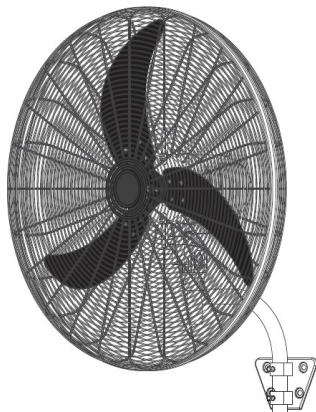

Figure 5
- * You can also install the fan Upward for your choice. (Figure 5)